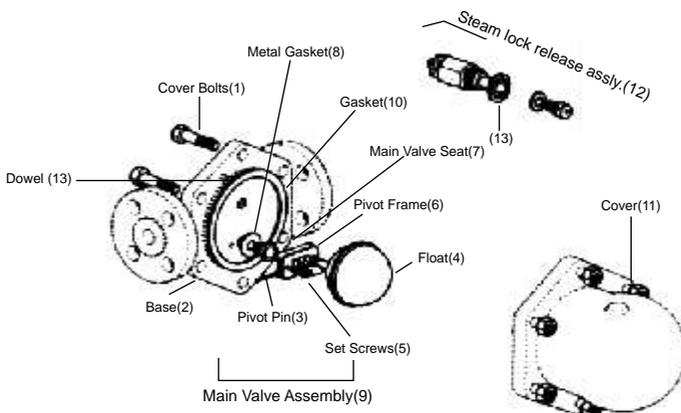

Figure 8: Maintaining the main valve assembly
### 7.4 Maintaining/ Replacing the main valve assembly:(Refer to Figure 8)
**9.** Available Spares : (Refer to Figure 8)